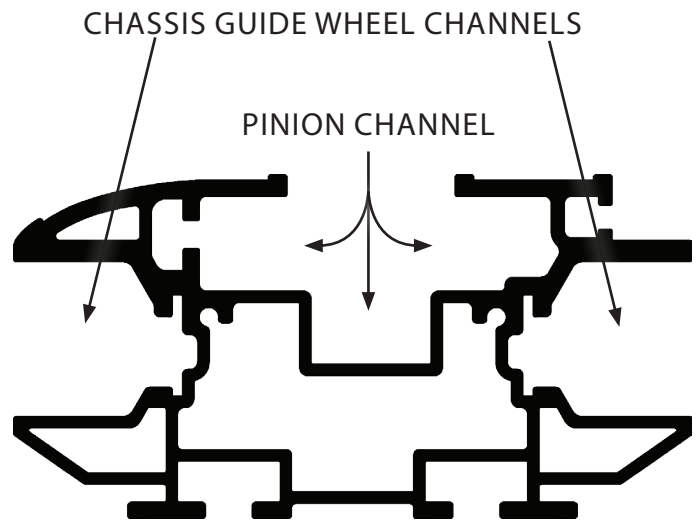
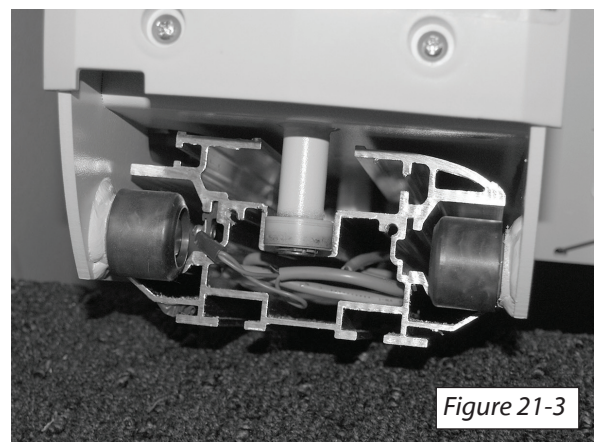

Figure 21-1
Figure 21-3
3. The chassis slides onto the top of the rail. Carefully pick up the chassis and align the pinion and guide wheels with the rail channels. Insert the chassis onto the rail. [Figure 21-1 and 21-2] Let it slide down until it stops (the pinion gear will make contact with the gear rack, allowing it to stop). [Figure 21-3]